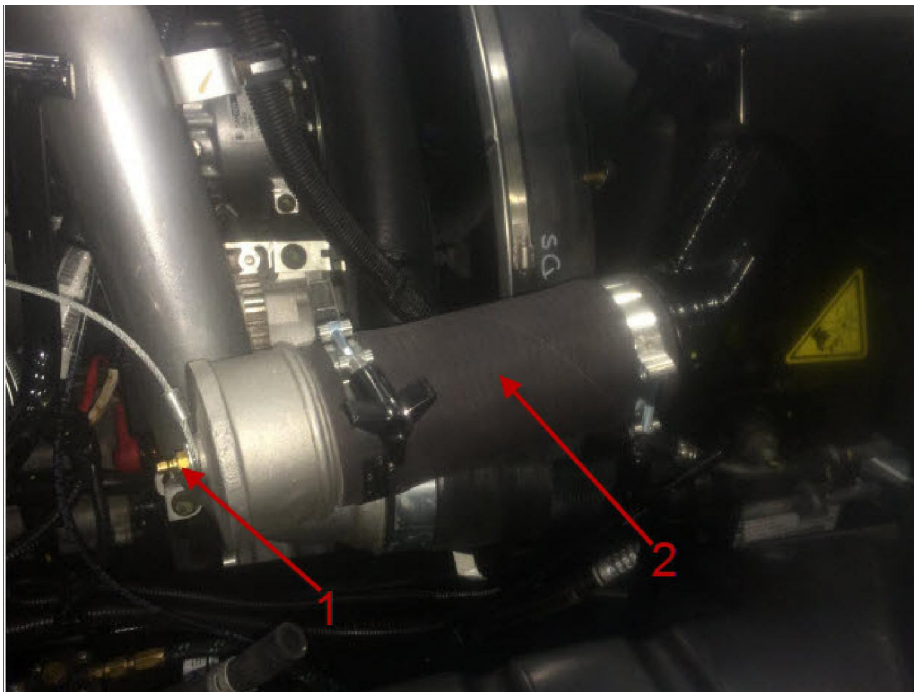

Figure 2. Bleeding Air Pressure.
7. Slowly turn bleed-off valve (Figure 2, Item 2) on bleed-off coupler (Figure 2, Item 1) counterclockwise and release air from system.